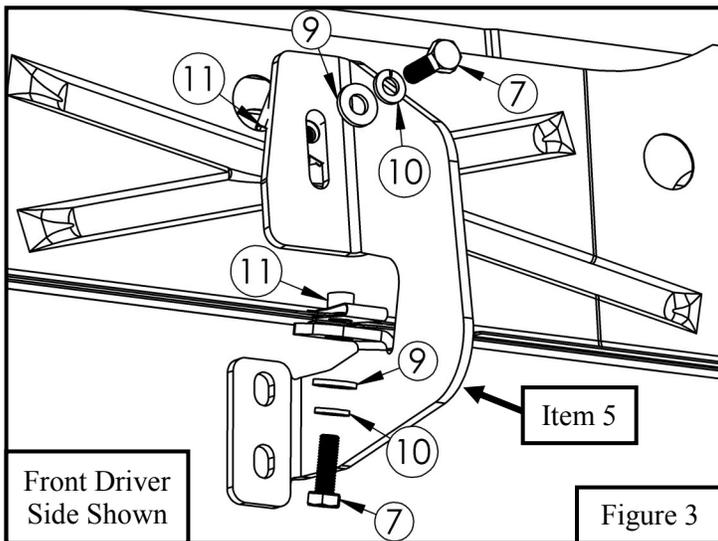

Figure 3
3. Insert (1) M8 u-nut clip (Item 11) into the hole where the rubber plug was removed. Clip (1) M8 u-nut clip onto pinch weld if no factory welded nut is present. Locate (1) Mounting Bracket B (Item 5) and loosely secure it to the rocker panel using the provided hardware: (2) M8 hex head bolt long, (2) M8 flat washer, and (2) M8 lock washer. See **Figure 3**.